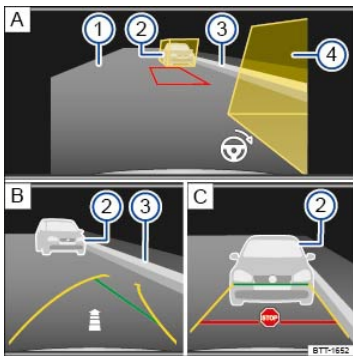

Fig. 139 Orientation lines and boxes for parallel parking mode (if equipped).
Key to ⇒ Fig. 139 :
- Position the vehicle about 3 feet (1 meter) away from and parallel to the parking space. The yellow boxes should completely cover any boundaries ⇒ Fig. 139 ② and ④ **A**. The space between the yellow boxes must be free of obstacles.
- Without moving the steering wheel, slowly back up until the stop symbol **⊖** appears **OR** until the side green line aligns with the side boundary of the parking space, for example, the curb ③. An arrow **B** shows the approximate remaining distance, based on the number of segments shown in the arrow.
- Continue to slowly back up until the stop symbol **⊖** appears **C**. **OR:** At the very latest, stop the vehicle when the horizontal red line has reached the rear boundary, for example, a parked vehicle ② **C**. Position the vehicle parallel to the road as necessary.